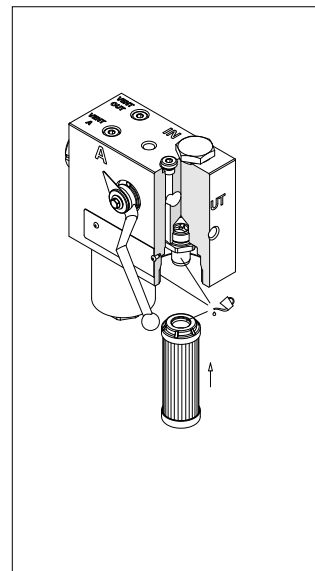

fig. 11
- (Fig. 11) Lubricate with the operating fluid the filter element O-ring, the housing tap and cavity, then fit the filter element on the tap. Pay attention not to damage the O-ring seal